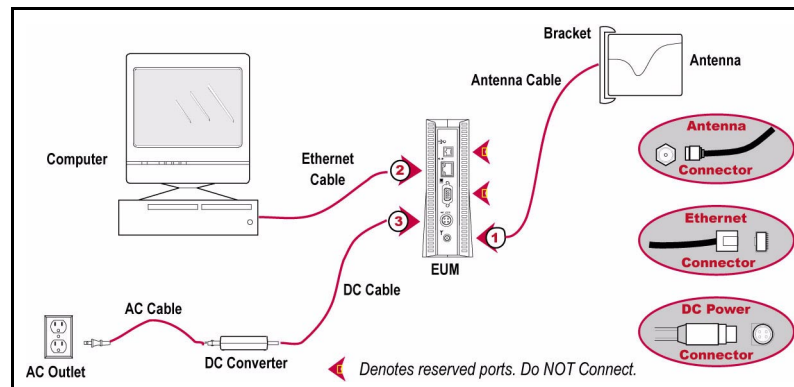

Figure 2 Connecting the EUM3000 Components
1. Hand-screw the antenna cable onto the corresponding connector at the back of the EUM3000 (refer to pointer 1 in Figure 2). Do not use wrenches or pliers. Do not cross-thread or overtighten.
2. If you are connecting the EUM3000 directly to your computer, attach the crossover Ethernet cable that is included with your kit to the Ethernet port on your computer and the Ethernet port on the EUM3000 (refer to pointer 2 in Figure 2). If you are connecting the EUM to your computer through a hub, use the Ethernet cable recommended by the hub manufacturer.